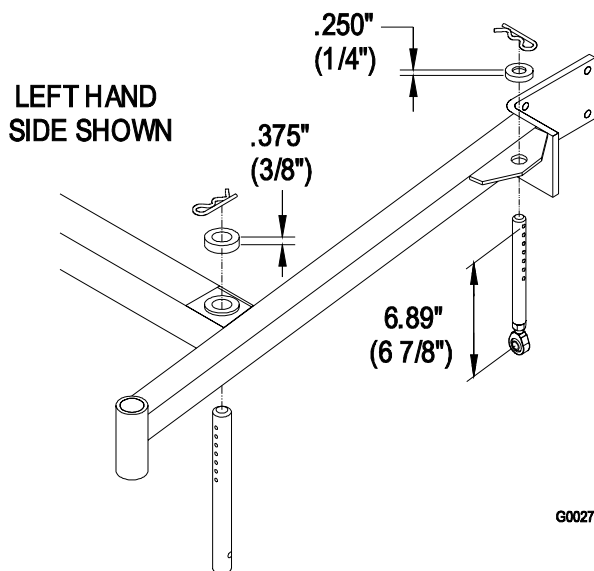

FIGURE 9
- b) Install hairpin clips in the holes for the desired cutting height (See Figure 9).
1. The front and rear hairpins are in the same holes with the proper spacers under the hair pins (See Figure 9).
3. The length of the rear deck support link assemblies should average 6.89" (approximately 6 7/8") (17.5 cm) from the center of the ball joint to the center of the furthest hole (See Figure 9).